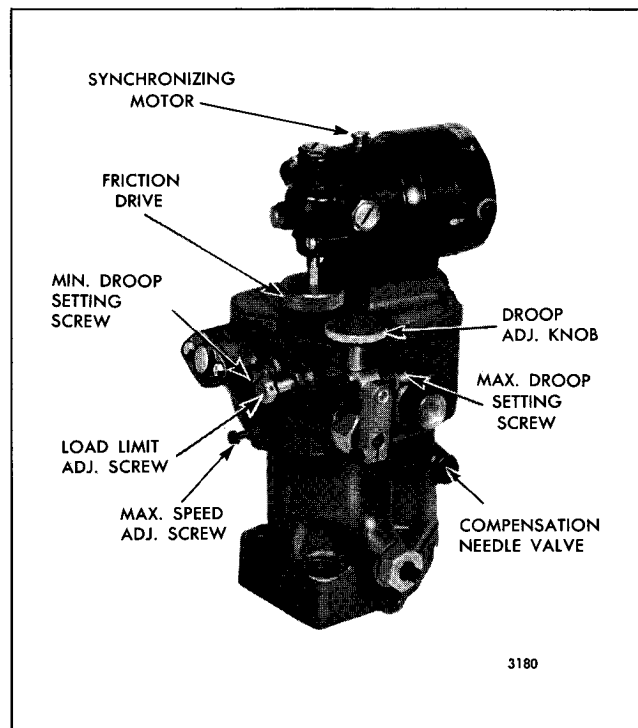

Fig. 9 - Typical Synchronizing Motor Mounting
Some PSG type governors are equipped with an external adjustable droop control (see Fig. 9). This
5. Loosen the droop adjusting knob (see Fig. 9) and move the slider all the way in toward the center of the governor. Then, tighten the knob.
Some hydraulic governors are equipped with a reversible electric synchronizing motor (see Fig. 9) mounted on the governor cover.